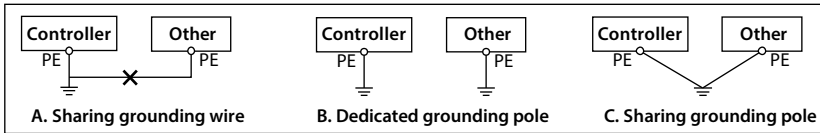

Figure 5-5 Recommended ground method
Do not share the grounding wire with other devices (A). HD30 can share grounding pole with other devices (C). It achieves the best effect if HD30 and other devices use dedicated grounding poles (B), as shown in Figure 5-5.